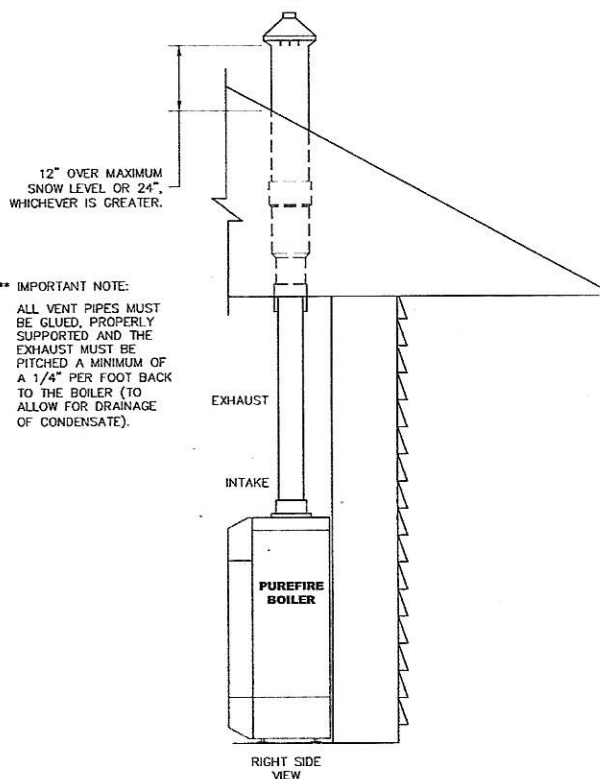

Figure 3.8: Concentric PVC Vertical Vent Installation
- Figure 3.8 shows an approved vertical vent configuration using the optional concentric vent termination kit.